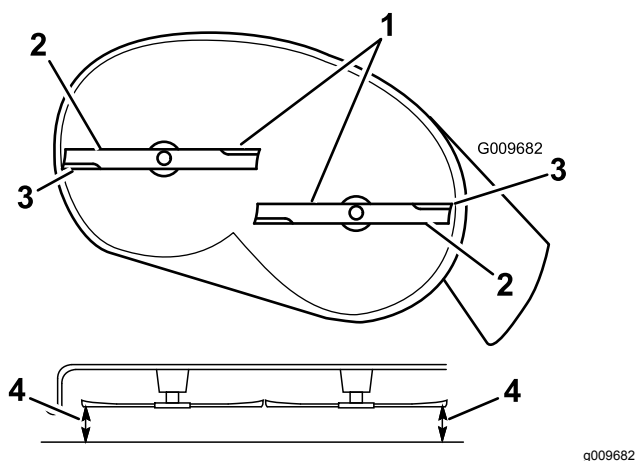
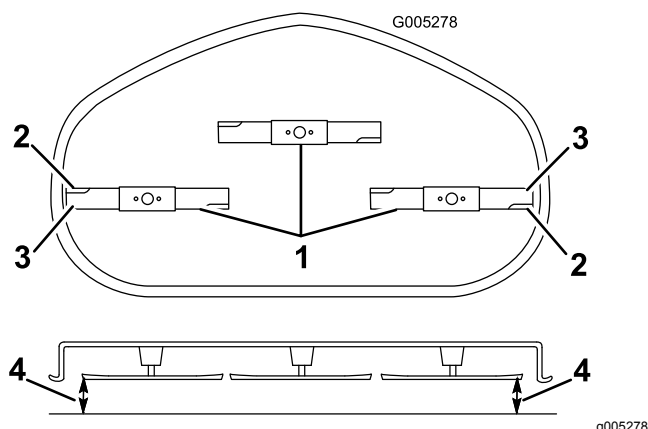

Figure 66
Figure 67
4. Carefully rotate the blades so that they are all side to side (Figure 66 and Figure 67).
5. Measure between the outside cutting edges and the flat surface (Figure 66 and Figure 67).